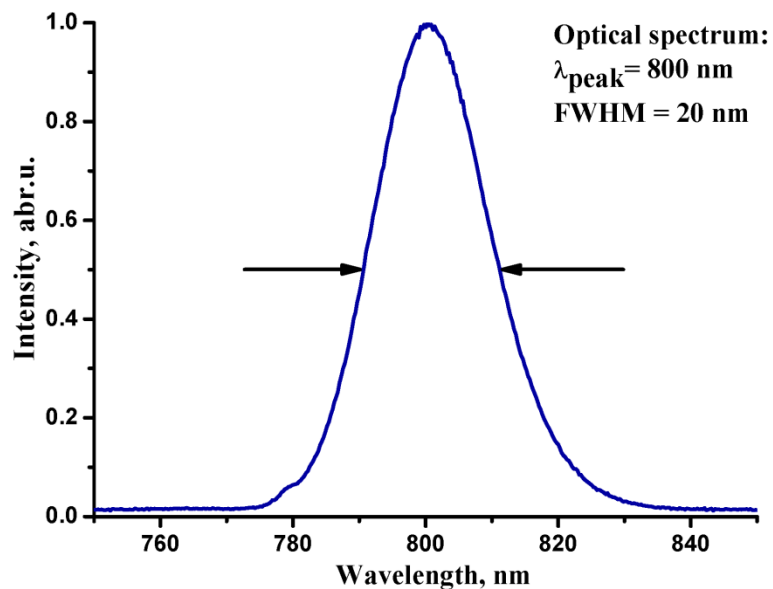

Fig. 17 Spectrum
84. Measure the spectrum of Ti:Sapphire laser radiation with the help of a spectrometer or a diffractive grating. The typical spectrum is given in the **Fig. 17**